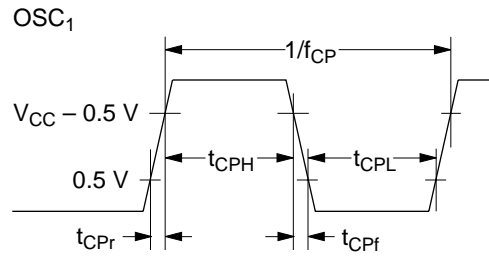

Figure 84 External Clock Timing
3. Refer to figure 84.
- Refer to figure 84.